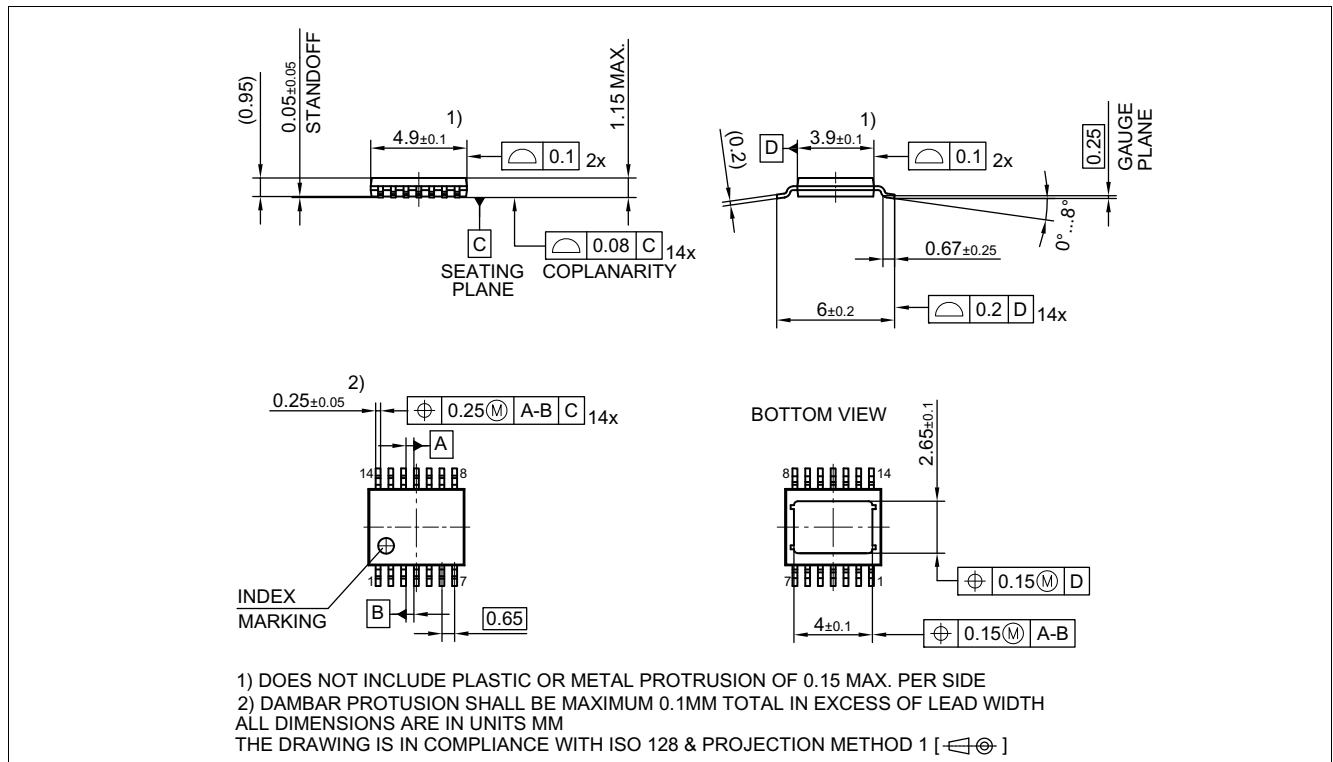
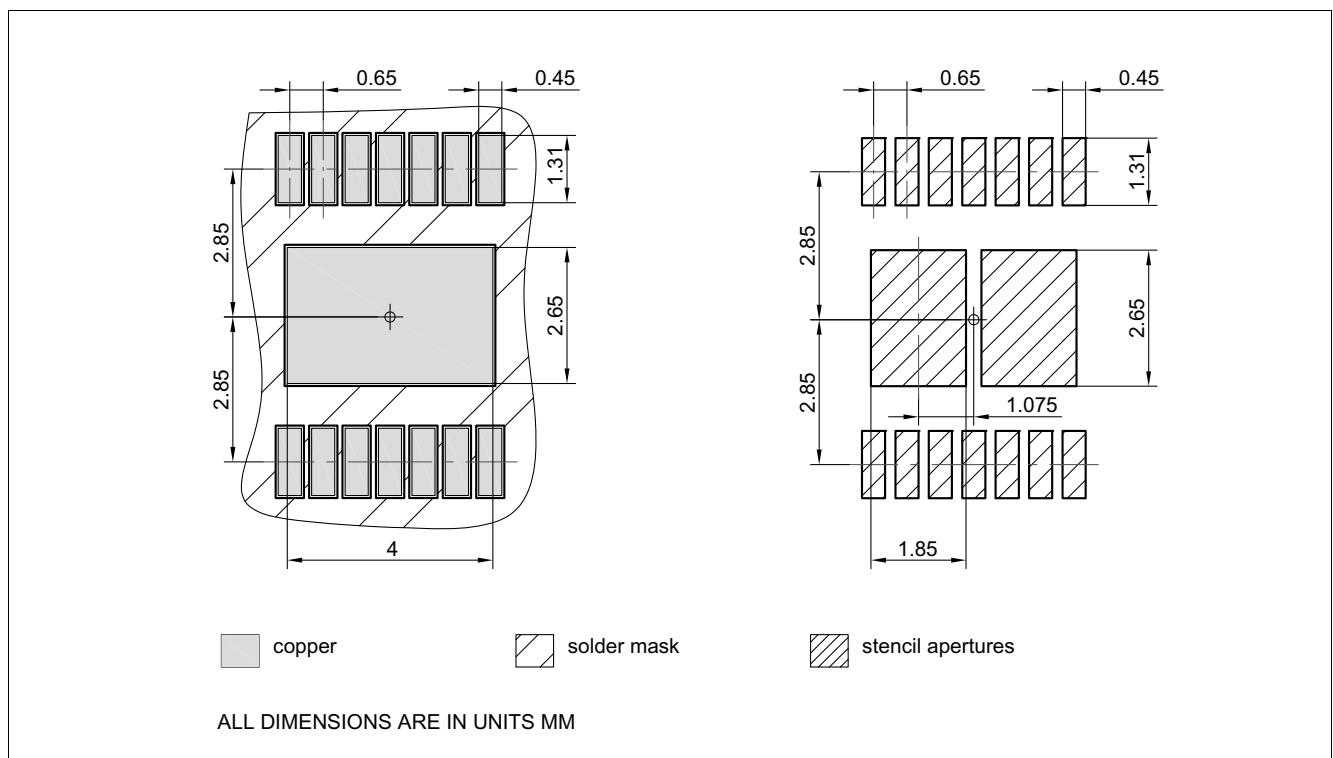

Figure 44 PG-TSDSO-14 (Thin (Slim) Dual Small Outline 14 pins) Package Outline
Figure 45 PG-TSDSO-14 (Thin (Slim) Dual Small Outline 14 pins) Package pads and stencil
1.03 , 2018-10-18	Chapter 9.3.1 updated (typo) Page 1: updated (Package PG-TSDSO-14-22 → Package PG-TSDSO-14) Figure 29 updated Figure 44 updated (PG-TSDSO-14-22 (Thin (Slim) Dual Small Outline 14 pins) Package Outline → PG-TSDSO-14 (Thin (Slim) Dual Small Outline 14 pins) Package Outline) Figure 45 updated (PG-TSDSO-14-22 (Thin (Slim) Dual Small Outline 14 pins) Package pads and stencil → PG-TSDSO-14 (Thin (Slim) Dual Small Outline 14 pins) Package pads and stencil) Table 1 updated ((Symbol: $I_{VS(SLEEP)}$ → $I_{VS(SLEEP)_{85}}$), (Parameter: Minimum Overvoltage protection ($T_J = 25\text{ °C}$) → Minimum Overvoltage protection ($T_J \geq 25\text{ °C}$)) P_9.6.0.6 updated (Note or Test Condition: removed unnecessary line-break) Chapter 7.4.1 updated chapter title (PROFET → PROFET™) Table 12 updated table title (PROFET → PROFET™) Chapter 8.6.1 updated chapter title (PROFET → PROFET™) Table 16 updated table title (PROFET → PROFET™) Chapter 9.5.1 updated chapter title (PROFET → PROFET™) Table 21 updated table title (PROFET → PROFET™) P_4.1.0.21, P_4.1.0.22, P_4.1.0.23, P_4.1.0.24 updated (footnote ESD standards) Table 1 updated ($R_{DS(ON)}$ → $R_{DS(ON)_{150}}$), ($V_{DS(CLAMP)}$ → $V_{DS(CLAMP)_{25}}$) Chapter 8.5.2 updated phrasing P_7.5.4.14 Table subheading "Switching Energy" added P_7.5.4.15 Table subheading "Switching Energy" added Chapter 6.4 added conditions Chapter 7.5 added conditions P_7.5.4.14 updated (Test condition: add "See Figure") P_7.5.4.15 updated (Test condition: add "See Figure") Chapter 8.7 added conditions Chapter 9.6 added conditions P_9.7.4.27 updated (Test condition: add "See Figure") P_9.7.4.29 updated (Test condition: add "See Figure") Chapter 7.3.1 typo corrected (link to Figure 19 added)